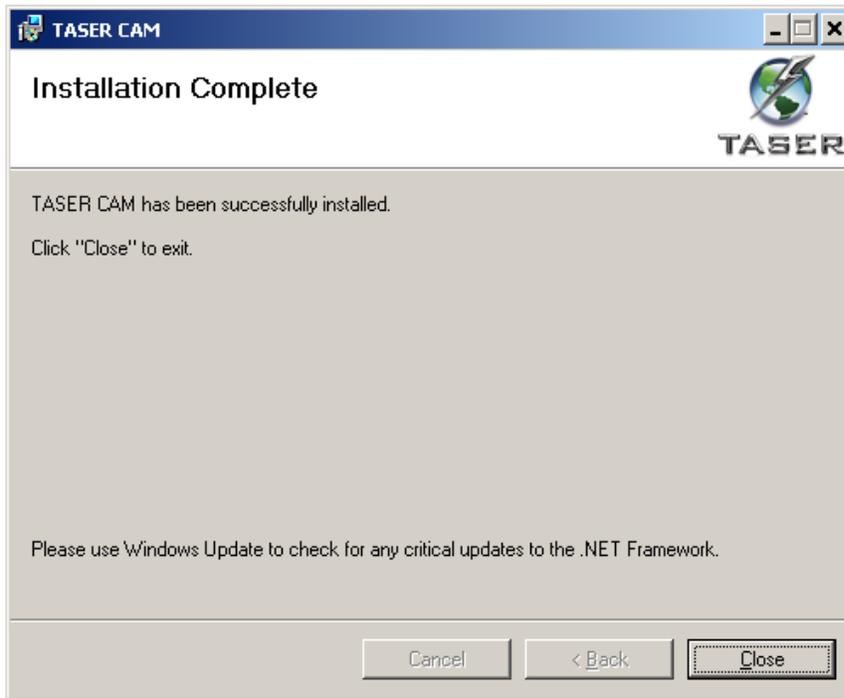

Figure 8
12. The installation is complete. Click **Close** to exit (Figure 8).